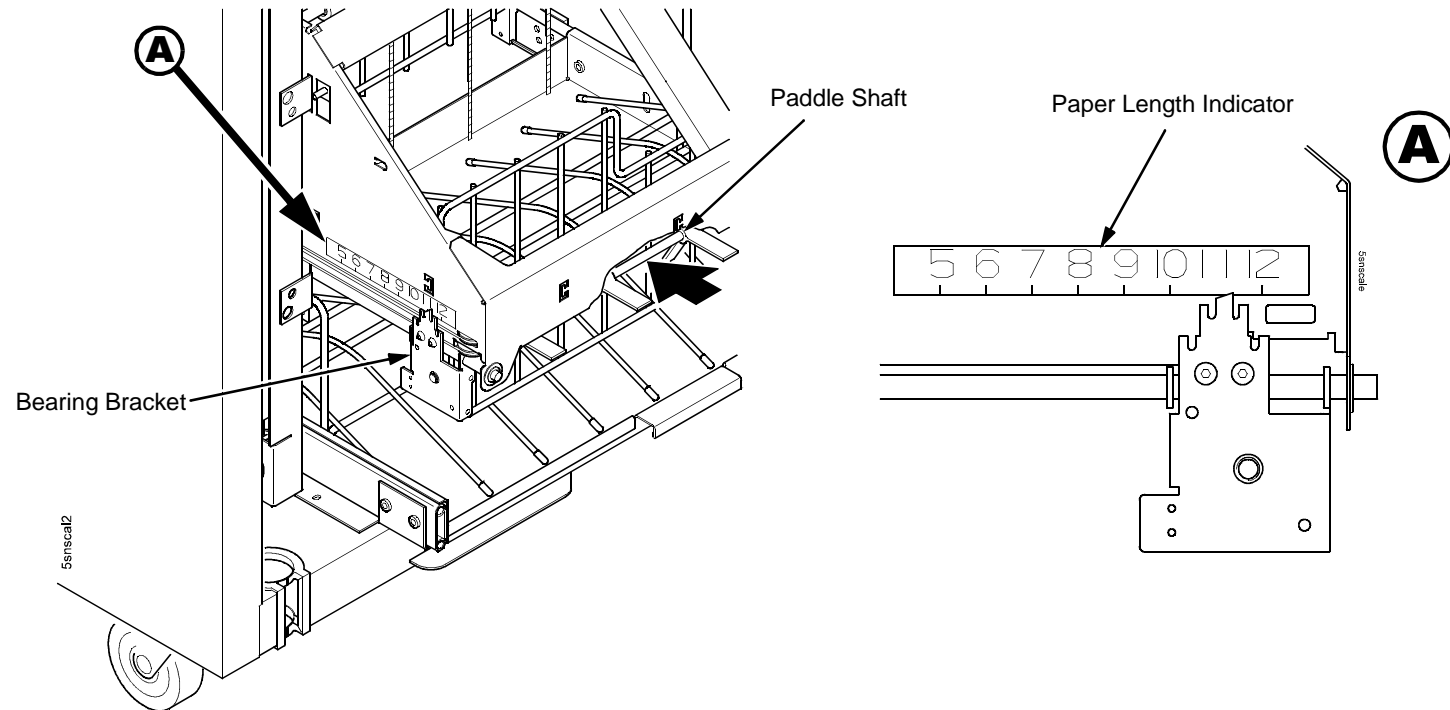

Figure 73. This figure shows how to set the paper length on the power stacker.
6. Push or pull the paddle shaft toward the front or the rear of the printer and set the paper length by aligning indicator notch on the bearing bracket with the paper length indicator. (Length range: 5 to 12 inches.) (Figure 73.)